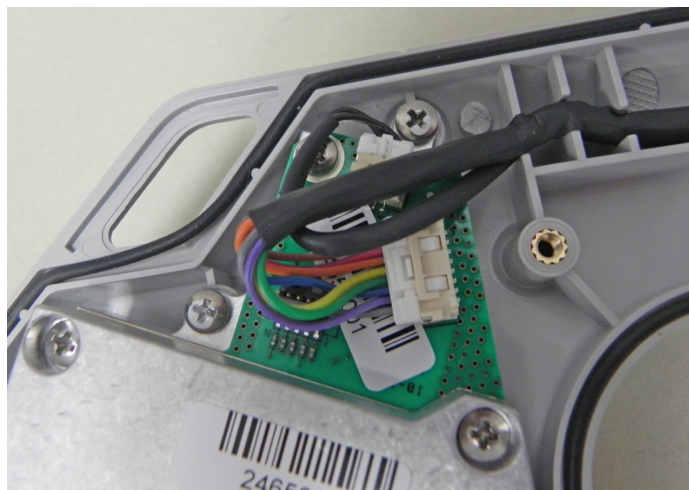

Figure 3-6. Remove the Cables from the Motherboard
3. Remove the two cable connectors (one for the trigger and one for the GPS module) by depressing the locking tab and pulling the connectors out (Figure 3-6).